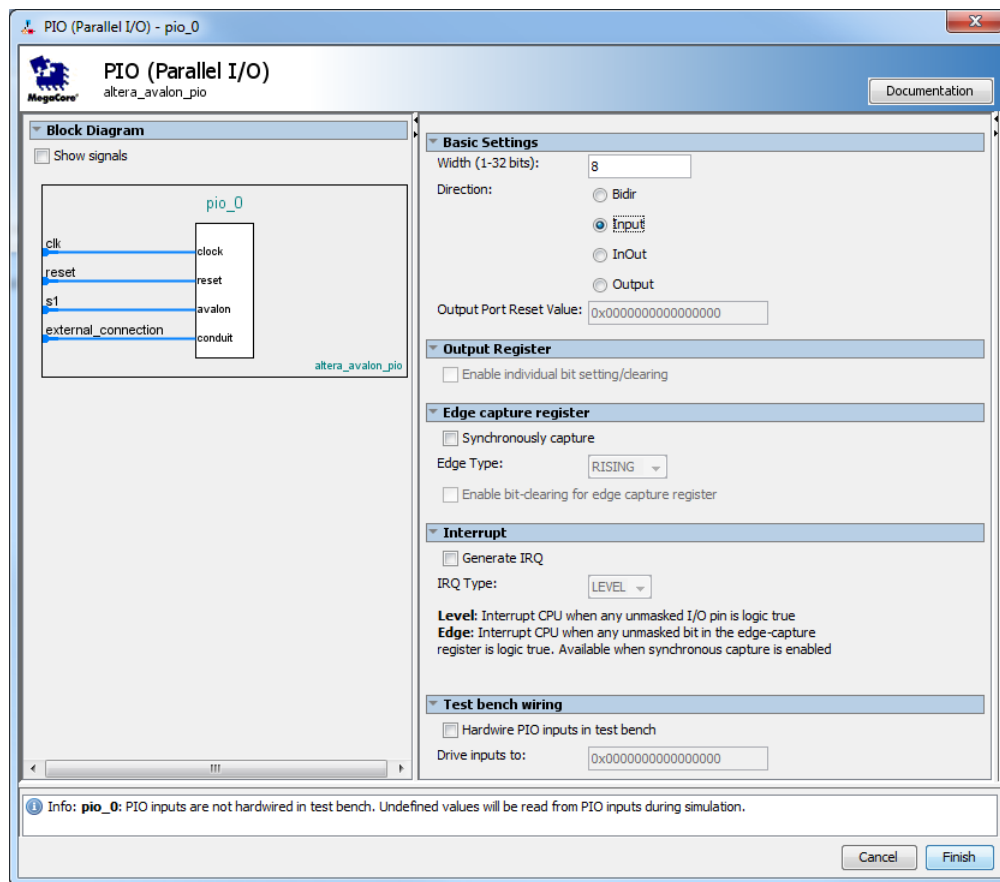

Figure 11. Define a parallel input interface.
- Select **Processors and Peripherals > Peripherals > PIO (Parallel I/O)** and click **Add** to reach the PIO Configuration Wizard in Figure 11